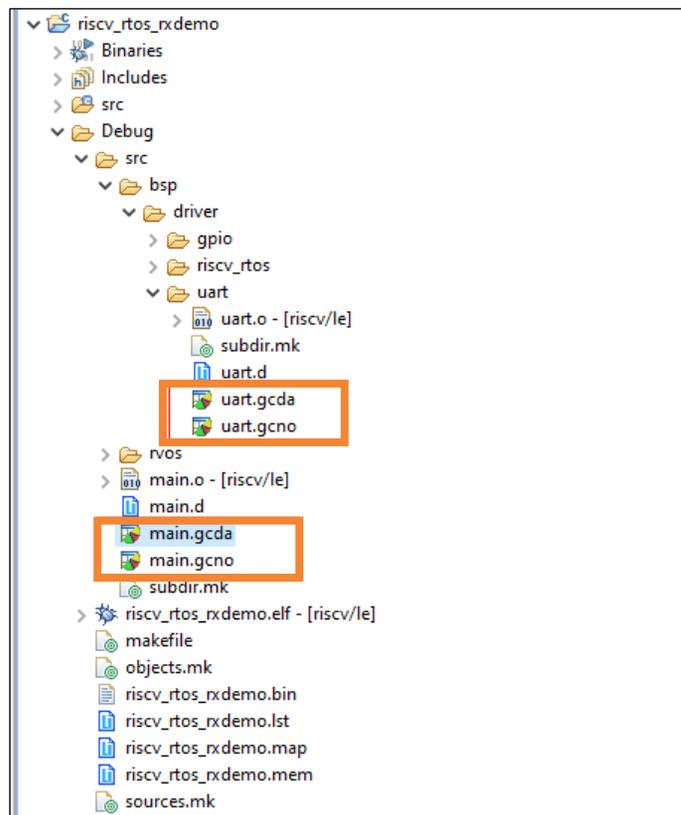

Figure 5.5. Coverage Files
1. Check the coverage files (**Figure 5.5**).